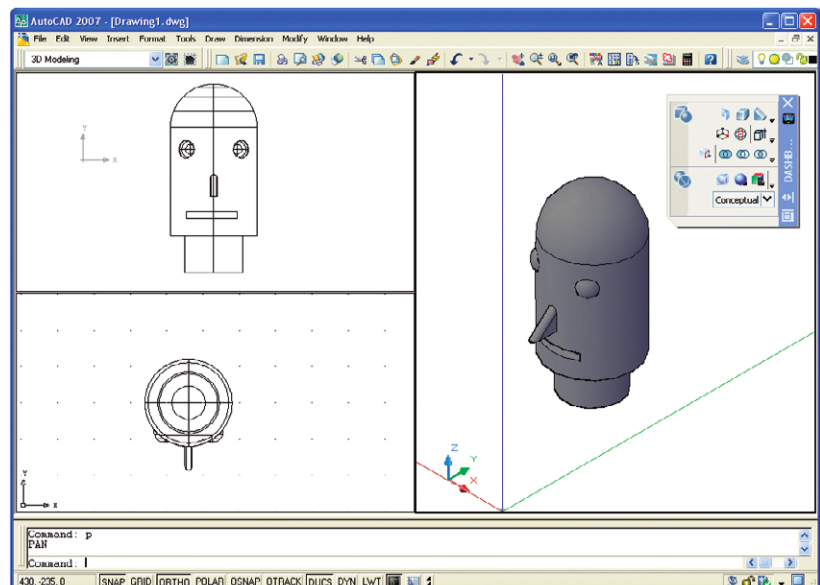

Fig. 14.12 Exercise I
- Using the **Cylinder**, **Box**, **Sphere**, **Wedge** and **Fillet** tools together with the **Union** and **Subtract** tools and working to any sizes thought suitable, construct the 'head' in the **Three: Right** viewport as shown in Fig. 14.12.